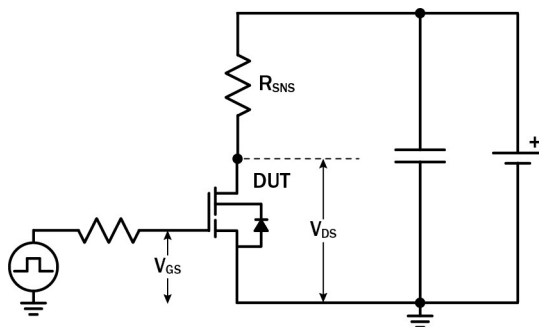

Figure 18. Dynamic $R_{DS(on)eff}$ Test Circuit
- g. Dynamic R_{DS(on)}, 100% tested; see Figures 18 and 19 for test circuit and conditions